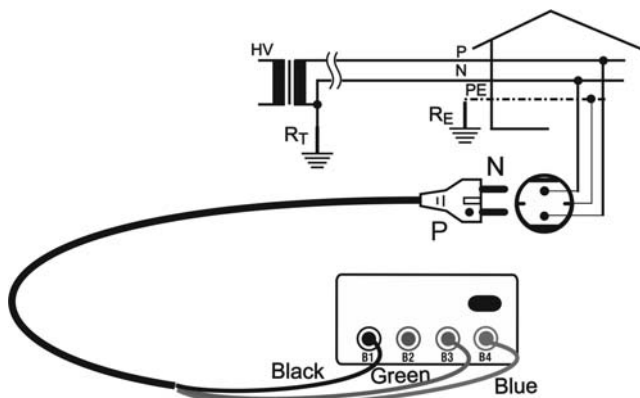
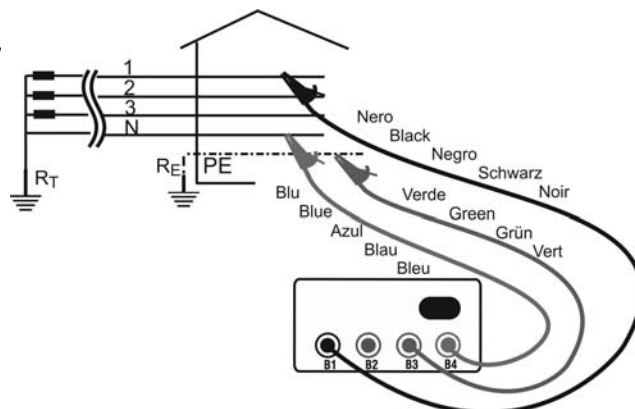
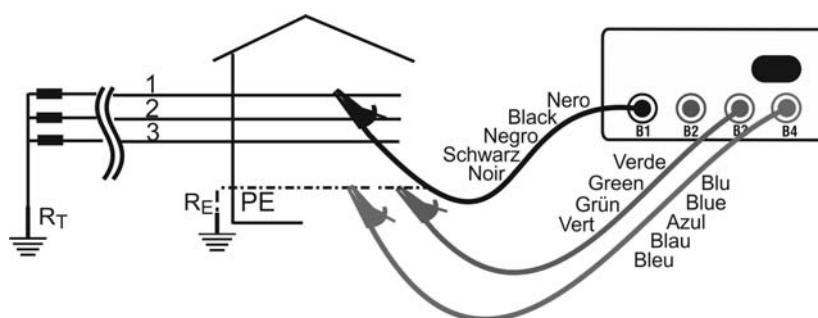

Fig. 10: Connection for measuring P-PE impedance of single-phase/two-phase 230V system
Fig. 11: Connection for measuring P-PE impedance of three-phase 400V + N system
Fig. 12: Connection for P-PE impedance of three-phase 230V or 400V system without N
2. Insert the 3 Black, Green, Blue connectors of the shuko cable or of the separate cables into the relevant instrument input terminals **B1**, **B3**, **B4** (see Fig. 10, Fig. 11, Fig. 12). In case separate cables are used, insert alligator clips on the free cable ends.
3. Insert the Shuko plug into a 230V 50Hz socket or the alligator clips onto the conductors of the three-phase system (see Fig. 10, Fig. 11, Fig. 12)